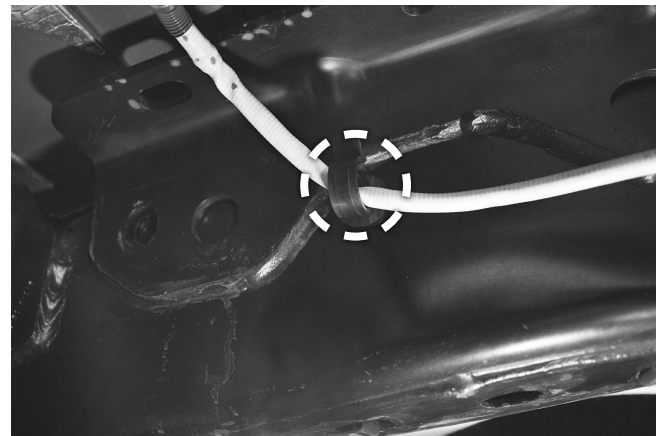

Fig. 38
- To install the passenger's (right) side upper brace (F), locate the clip (circled in Fig. 38) that holds the wiring harness for the O2 sensor. Remove and discard the clip, as it will no longer be needed.